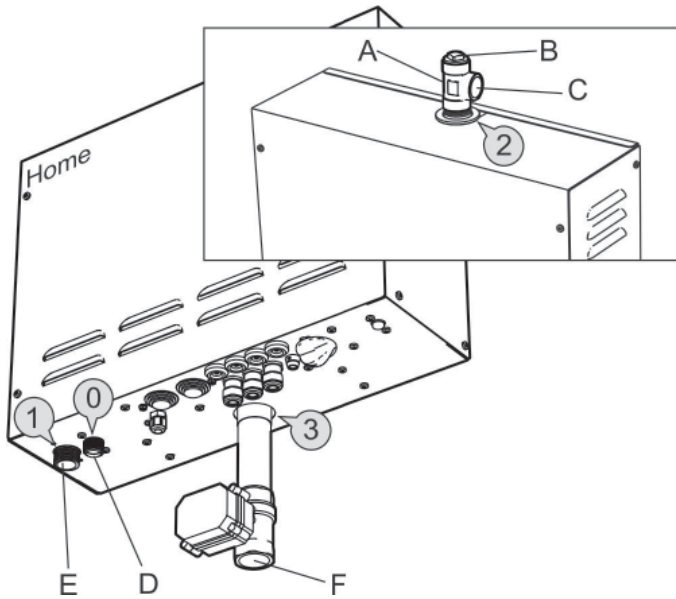

Fig. 6 Home type steam generator
Connect cold water to connection 1 (Fig. 6,7) on the steam generator. The incoming water pressure must be between min. 0.2 and max 10 bar (min. 20kPa and max 1000kPa).
Fit the connector, with the lock nut uppermost, to steam outlet 2 (Fig. 6,7) on the steam generator. Connect a copper pipe, with an internal diameter of at least 18mm, to the connector steam outlet (C). The steam pipe can have a down-slope either towards the steam room or towards the steam generator. Alternatively the steam pipe can be installed with a slope down towards both the steam room and towards the steam generator.
For drainage connect a copper pipe of good quality and an internal diameter of at least 25 mm to connection 3 (Fig. 6, 7) on the steam generator. The steam generator drain pipe is led to the nearest drain outside the steam room. The temperature of the water being drained is about 80-85°C.
A draining pipe connected to the safety valve D (0)(Fig. 6 and 7) is to be installed in a continuously downward direction and in a frost-free environment.